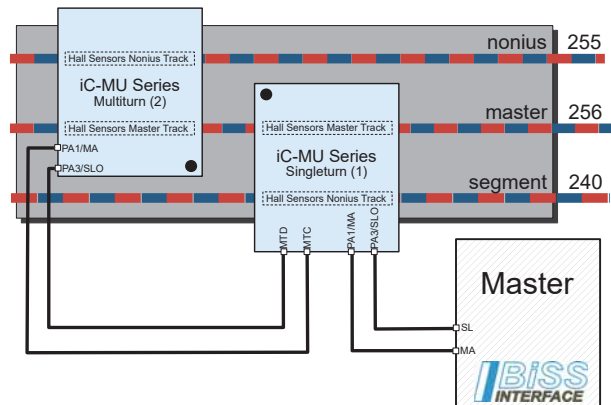

Figure 42: 3-track nonius with 2 iC-MU
The construction of such a system is shown as an example in Figure 42 and the configuration in Table 68.
To facilitate the initial configuration of an iC-MU as a SSI multitrurn device the command SWITCH can be used (see page 60). The singleturn iC-MU (1) in Figure 42 has to enable the direct communication to the multitrurn sensor by setting GET\_MT to 1. The configuration of iC-MU (2) can take place using the BiSS protocol. After the configuration of the external multitrurn MODEA\_NEW and RPL\_NEW are used to set the target configuration of MODEA and RPL. After that the command SWITCH is executed. By reading STATUS1 it is possible to control if there was an error while executing the command. After the next startup or after the execution of the command SOFT\_RESET iC-MU starts with the interface configured with MODEA\_NEW and RPL\_NEW.